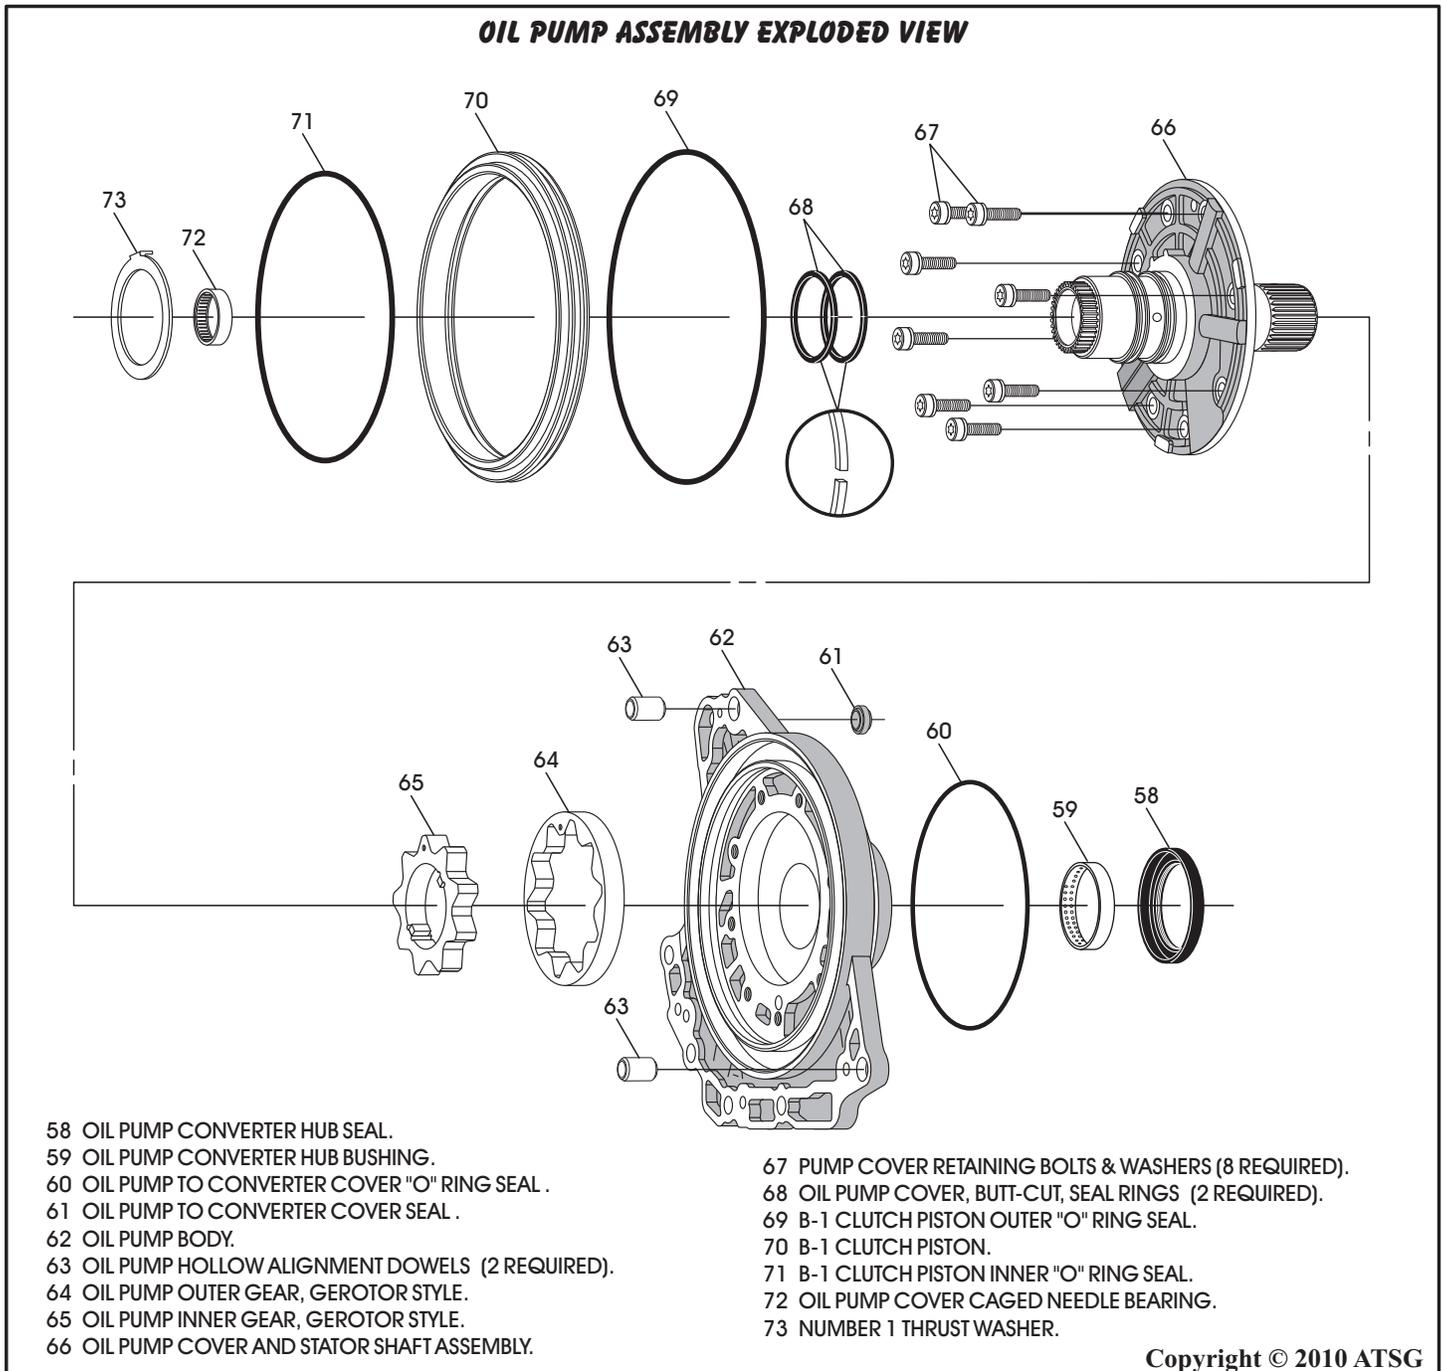

Figure 95
1. Disassemble the oil pump using Figure 95 as a guide.